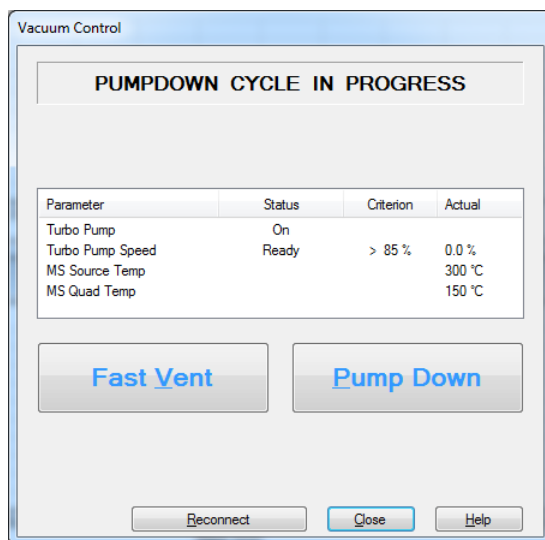

Figure 36 Vacuum control dialog
- 2 In the **Instrument Control view**, **Instrument menu**, select **MS Vacuum Control** to display the **Vacuum Control** dialog. (See **Figure 36** on page 110.)